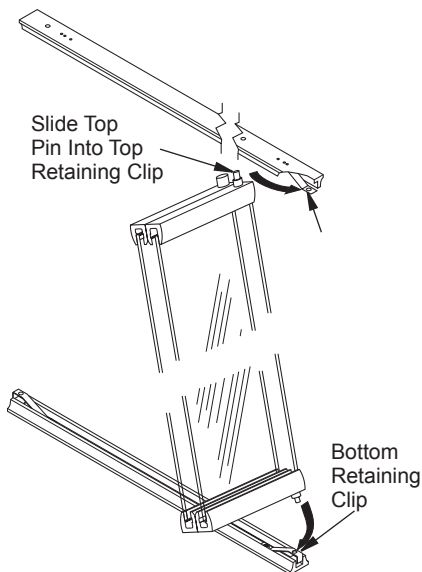

Figure 25 - Installing Doors
1. With bi-fold doors completely folded, insert bottom pivot pin into bottom retaining clip located at far left and far right side of bottom rail. Swing door to vertical position making sure top pins slide into top door rail. Door is installed when top door pin snaps into spring clip (see Figure 25, page 16).